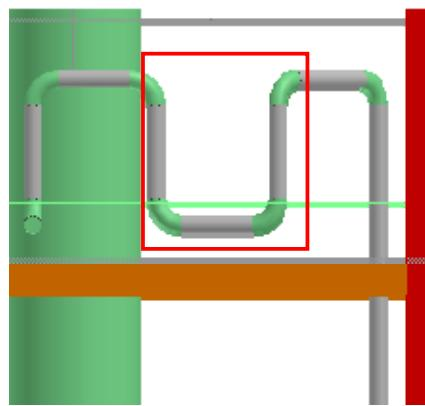

Figure 28: Area for the Pipe to be Placed
43. Now, place a **3 inch** NPD bypass above the main pipe in between the pipes highlighted in Figure 28. Use the **Common Views** button to change the view to **Looking North**.